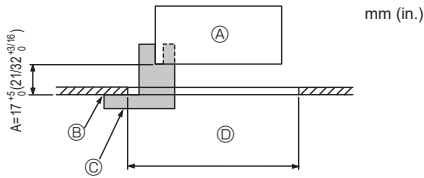
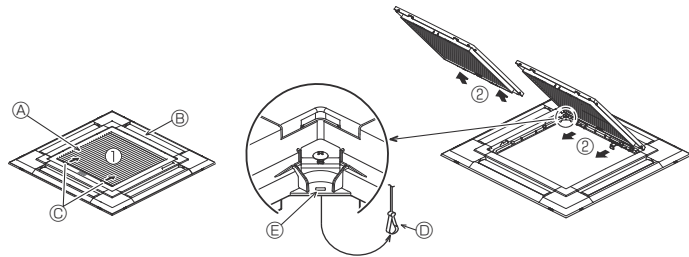
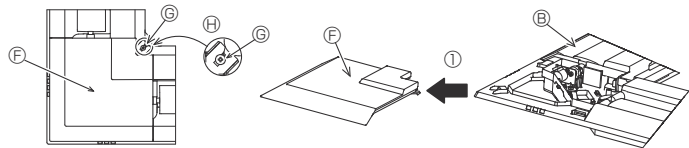

Fig. 9-2
Fig. 9-3
Fig. 9-4
①	Grille	1	950 × 950 (mm), 37-3/8 × 37-3/8 (in.)
②	Installation gauge	1	(Divided into 4 parts)
③	Screw (4 × 16)	1	For PLA-AE·NL
④	i-see Sensor corner panel	1	For PLA-AE·NL
9.2. Preparing to attach the grille (Fig. 9-2)
- With the gauge ② supplied with this kit, adjust and check the positioning of the main unit relative to the ceiling surface. If the main unit is not properly positioned relative to the ceiling surface, it may allow air leaks or cause condensation to collect.
- Ⓒ Installation gauge ② (inserted into the main unit)
9.2.1. Removing the intake grille (Fig. 9-3)
- Slide the levers in the direction indicated by the arrows ① to open the intake grille.
- With the intake grille in the "open" position, remove the hinge of the intake grille from the grille as indicated by the arrows ②.
9.2.2. Removing the corner panel (Fig. 9-4)
- Loose the 4 screws on the corner. Slide the corner panel in the direction of the arrow ① in the figure and remove the corner panel.
[Fig. 9-3] [Fig. 9-4]